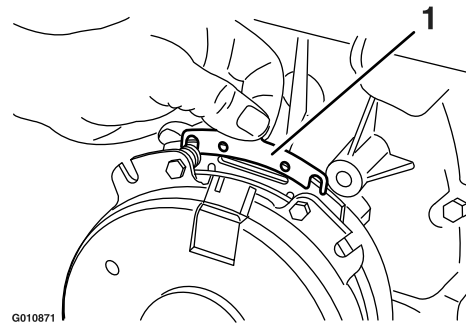

Figure 75
- B. Using needle-nose pliers, or by hand, hold the tab and remove the shim (Figure 75).